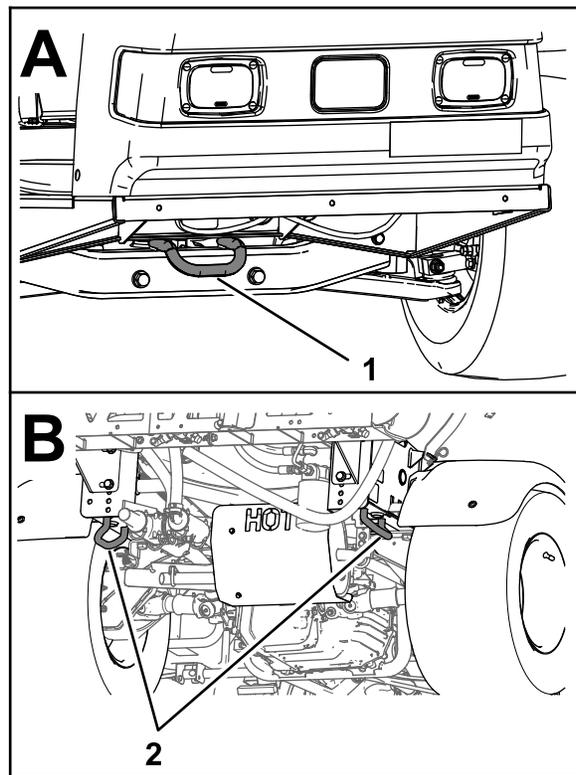

Figure 35
- Bind the machine securely to the transport vehicle; Figure 35 illustrates the tie-down loops of the machine.